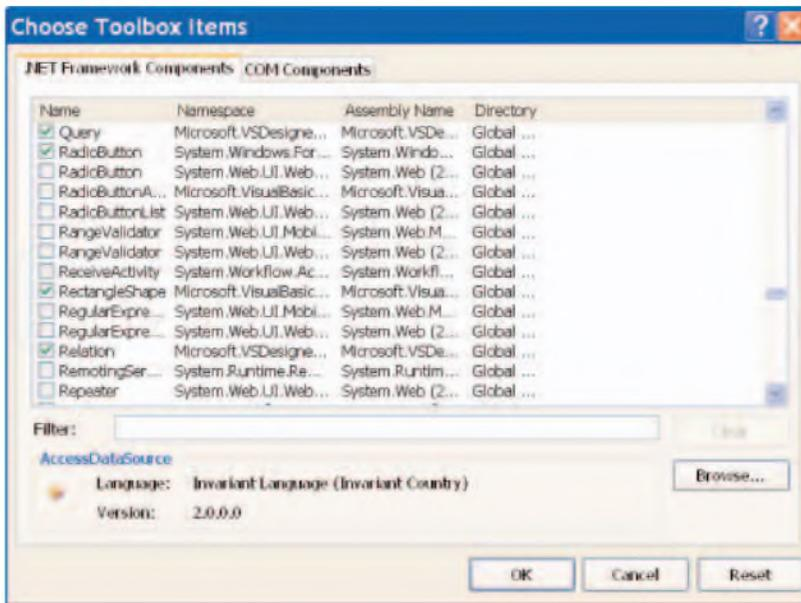

Fig.1. The Shape components will not be loaded automatically when using the Express edition, but they can be loaded manually under their individual names
However, it is true that installing this software will not result in the new components automatically appearing in the relevant section, as will normally happen with the full version, but they can be loaded manually. I had, in fact, tried to do this, but made a mess of quite a simple process. It is just a matter of going to the Tools menu and choosing Select Toolbox Items. This produces a popup window (Fig.1) where the checkboxes for the three individual Shape components must be ticked.
A LOW component count, easy to construct and compact circuit of a general-purpose infrared (IR) proximity detector switch is shown in Fig. 1.
Fig.1. Circuit diagram for the general purpose Infrared Proximity Switch. Note that IC1 pins 5 and 6 are the timing element pins and that pins 1 and 2 are the output filter and low-pass filter pins respectively